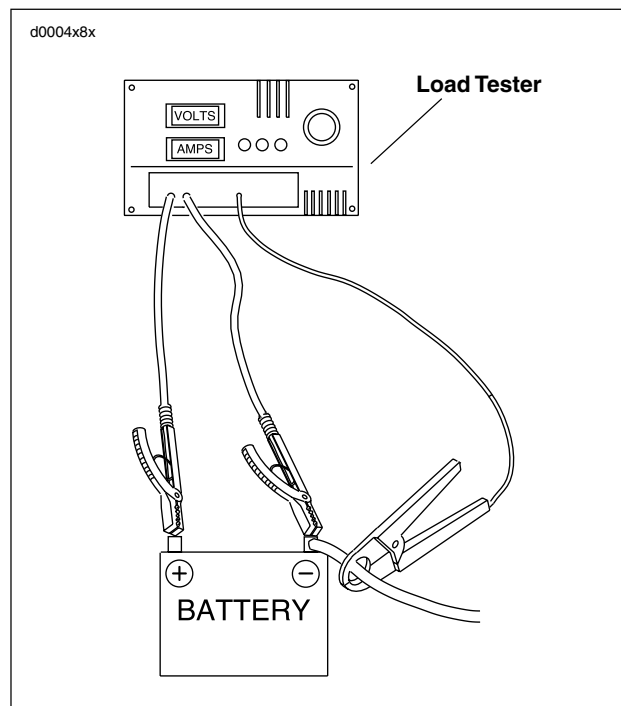

Figure 7-18. Check Current Draw (Ignition Switch On)
1. See Figure 7-18. To check for this condition, place load tester induction pickup or current probe pickup over battery negative cable.